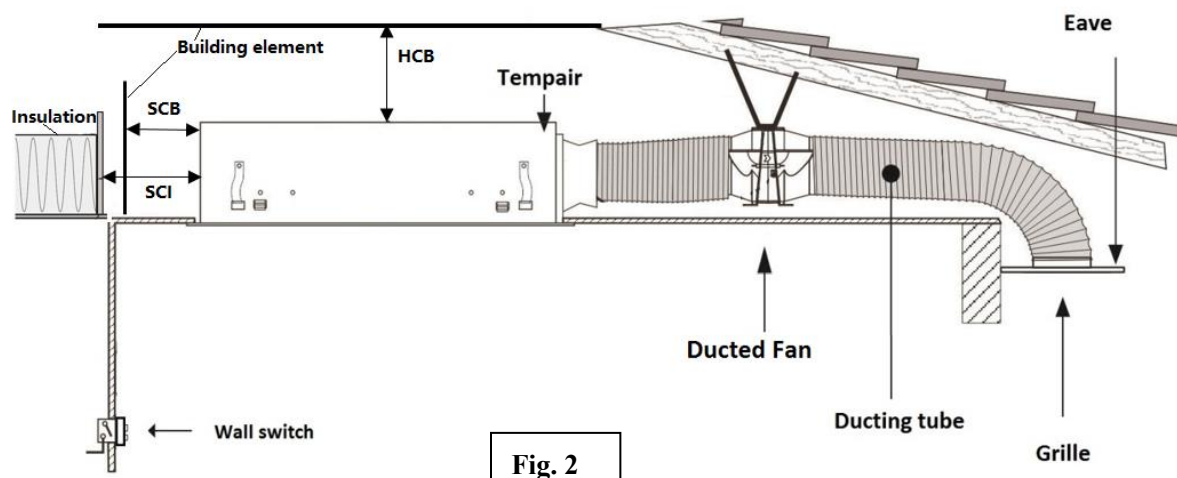

Fig. 2
4. Locate a suitable position on the ceiling space for the Ducted Fan unit, preferably near the heater unit as shown in the diagram above (Fig. 2 & 3), and the direction of airflow is correct before securing into position.